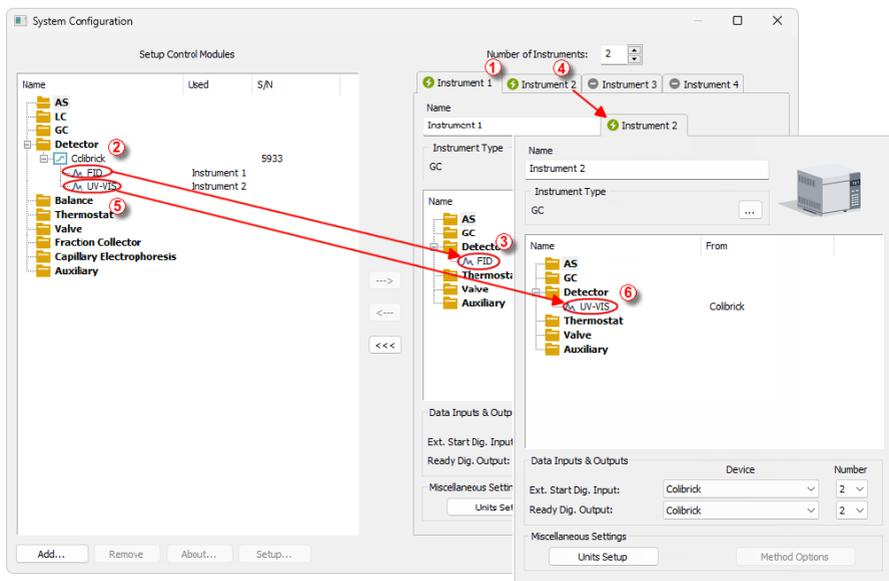

Fig. 8: System Configuration – multiple instruments
**Clarity** allows to measure on multiple Instruments using a single **Colibrick** device, see **Fig. 8** on pg. 11. After you add the **Colibrick** to the *Setup Control Modules list*, select an Instrument you wish to use ① and drag the individual detector signal - **FID** ② to the selected Instrument ③. Then switch to another Instrument ④, select the **UV-VIS** signal ④ and drag it to another Instrument. The Instrument to which the particular signal is connected is listed to the right (② and ⑤) of the detector name in the *Setup Control Modules* section.